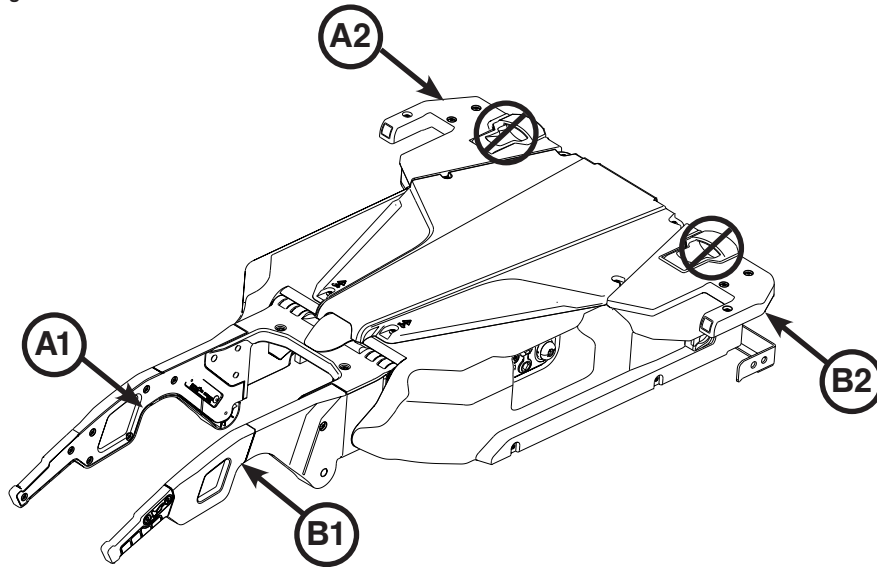

Figure 21: Trolley Assembly
9. Carefully lift the trolley assembly by its arm and wing. Do not lift the trolley by the manual cot release handles. Lift only where indicated. Installer 1, position hands at A1 and A2. Installer 2, position hands at B1 and B2 as shown in Figure 21.